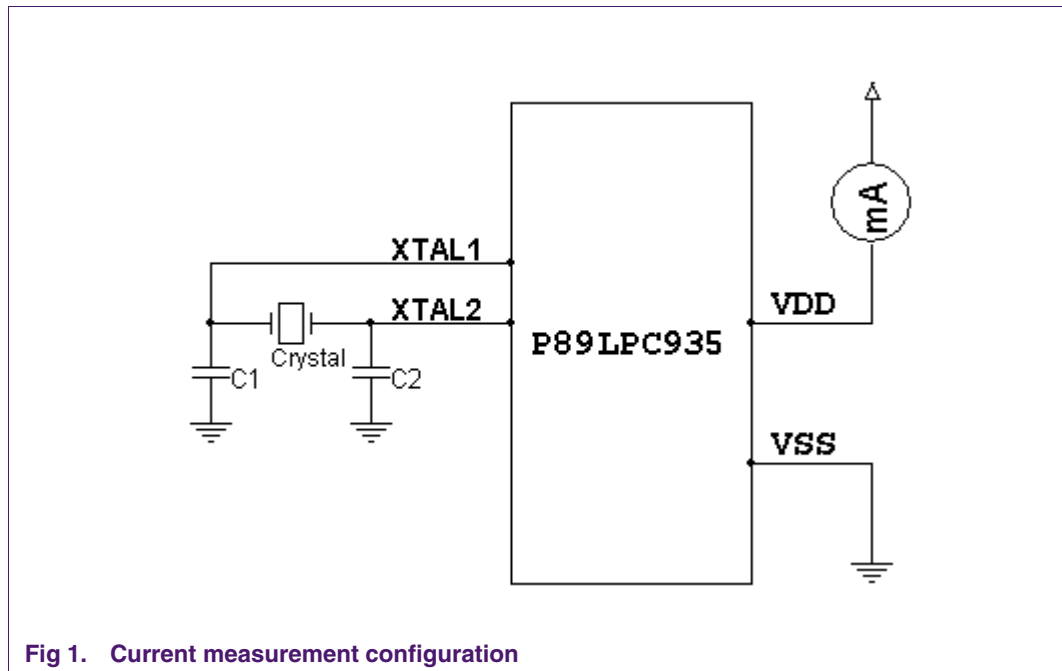

Fig 1. Current measurement configuration
- Hardware configuration as in Figure 1.
- Hardware configuration as Figure 1.